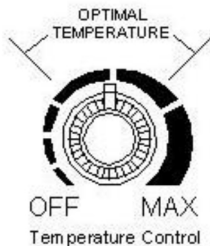

Figure 1
1. Align the electrical pins of the Base with the electrical pinholes of the Handle. Ensure the Locking Lever is in the raised/angled position. (Fig. 1)
2. Slide the Handle until it locks into position on the Base. (Fig. 1)
NOTE: The optimal cooking temperature is the 1/3 point to 2/3 point on dial (see Figure 1). High temperature levels may cause discoloration or shorten the life of the non-stick surface.